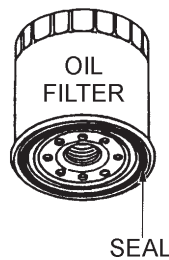

Figure 30. Oil Filter Cartridge
1. Clean oil filter mounting base, and coat oil filter seal (Figure 30) with clean engine oil.